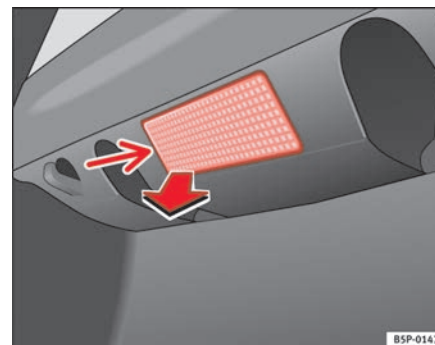

Fig. 196 Luggage compartment light
- Extract the tulip shaped fitting by pressing on the inside edge of this -arrow- using the flat side of a screwdriver ⇒ fig. 196. ►